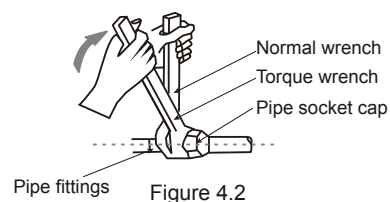

Figure 4.2
- ◆ Use two wrenches when you install or dismantle the piping, a common wrench and a torque wrench. See Figure 4.2.